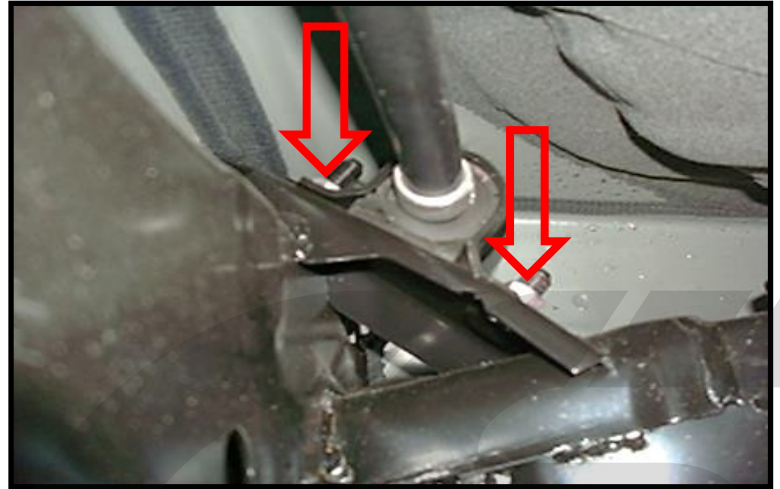

Figure 2f
- h) Remove the two (2) swaybar bracket bolts on each of the two brackets using the ratcheting wrench or a 14mm socket (bracket shown in Figure 2f). Remove the bracket and save the nuts for re-use.